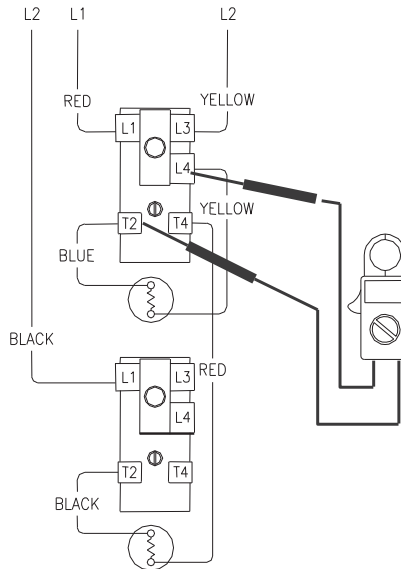

Figure 24
4. Check across terminals L4 and T2 of upper thermostat (see Figure 24).
4. See Figure 24 above. Check voltage across terminals L4 & T2 of upper thermostat.
4. Check across terminals L4 and T2 of upper thermostat (see Figure 24 on page 23).